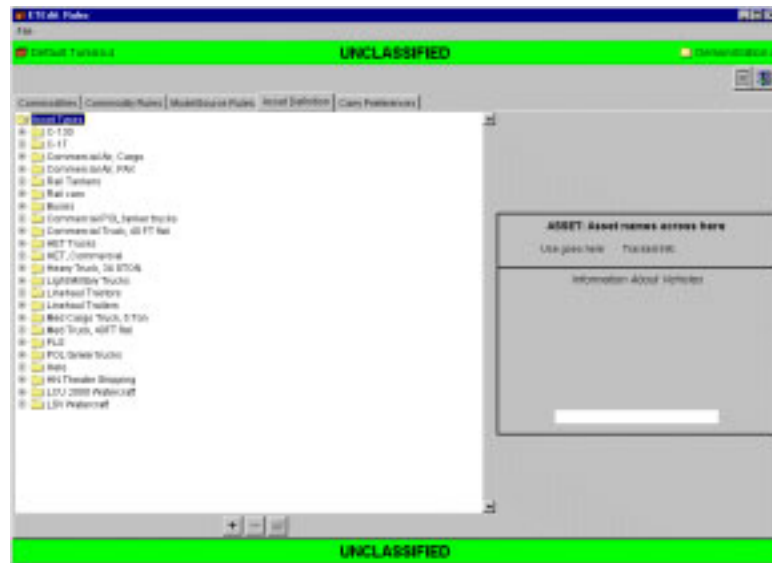

Figure 5.130 ETEdit Rules Window (Asset Definition Tab)
3. As needed, on the ETEdit Rules window, click the Asset Definition tab. The contents of the Asset Definition tab are displayed (Figure 5.130) and the three buttons at the bottom of the window are gray if there are no assets defined for this rule. Otherwise, a hierarchy tree is displayed, which shows the types of assets with individual assets within the type folders.